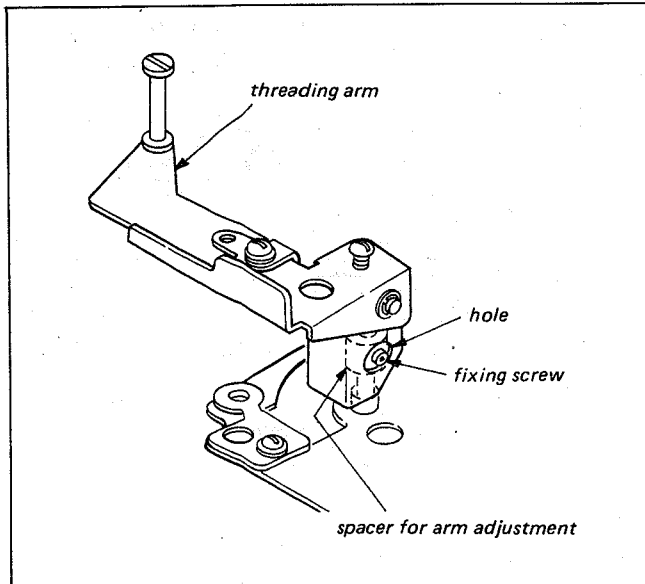

Fig. 6-10. F.FWD tape run adjustment (FR-STOP mode)
- If a tape curl is observed at the Flange of the Threading Arm, adjust height of the Threading Arm by re-setting the position of the Arm Adjustment Spacer, shown in Fig. 6-10.
Stop the machine. Loosen the Fixing Screw shown in Fig. 6-10. Adjust vertical position of the Spacer for Arm Adjustment, shown in Fig. 6-10.